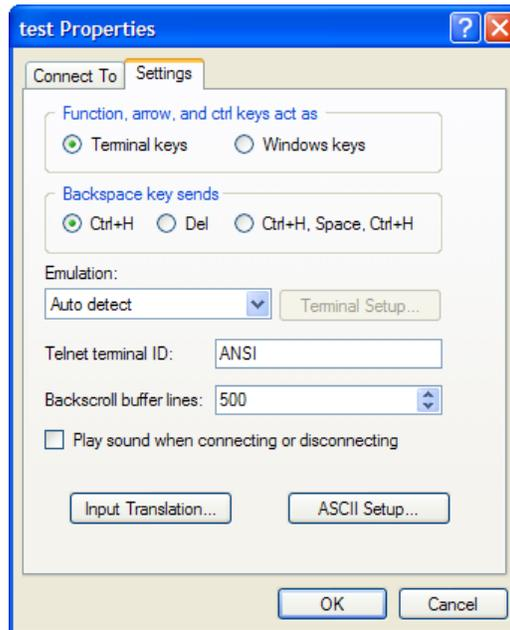

Figure 85. Properties Window
- 5 From the main menu, select **File**→**Properties**. The Properties window opens, as shown in Figure 85.